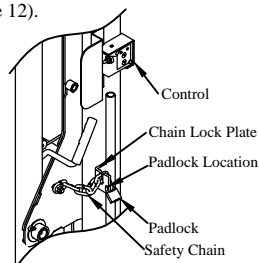

Figure 12: Steps 14 & 15.
- Step 14. Place the loose end of the Safety Chain in the slot on the Chain Lock Plate (Figure 12).
- Step 15. Always install the Padlock and deactivate the control when not in use (Figure 12).